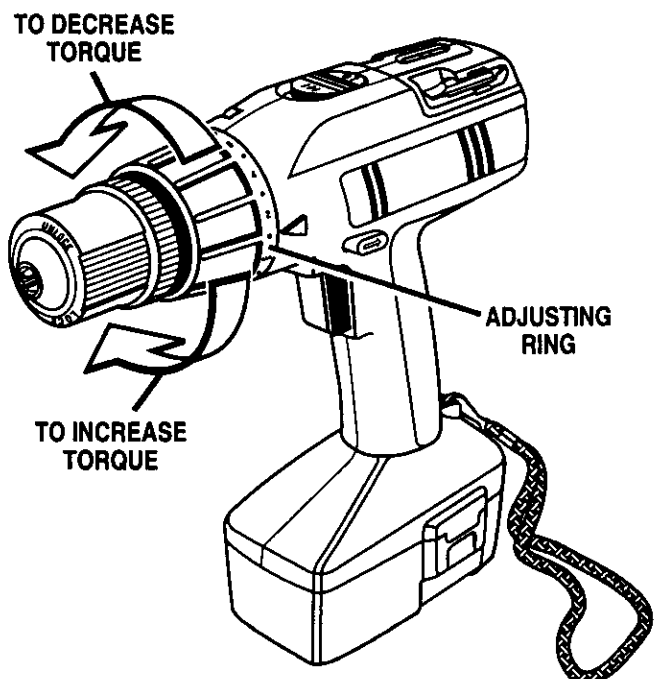

Fig. 10
- Identify the twenty four torque indicator settings located on the front of your drill. See Figure 10.